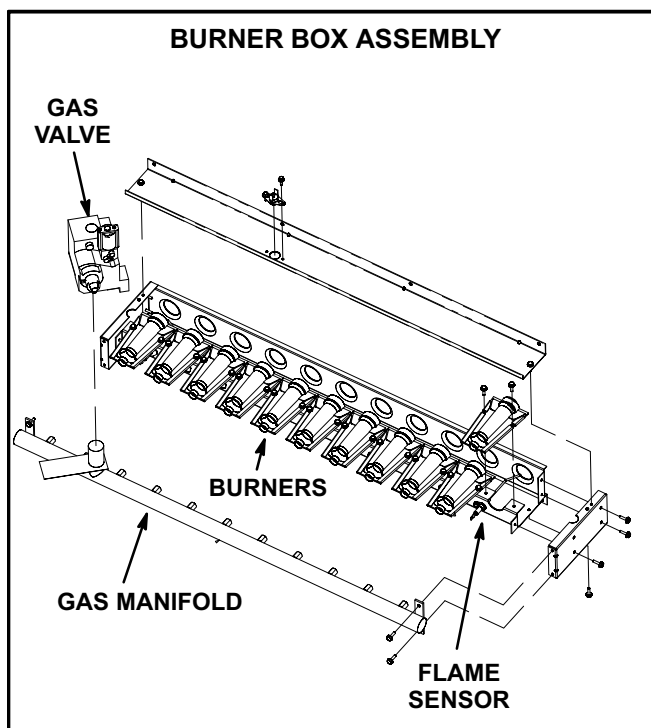

FIGURE 17
- 3- Remove two screws securing burners to burner support and lift the burners from the orifices. See figure 17. Clean as necessary.